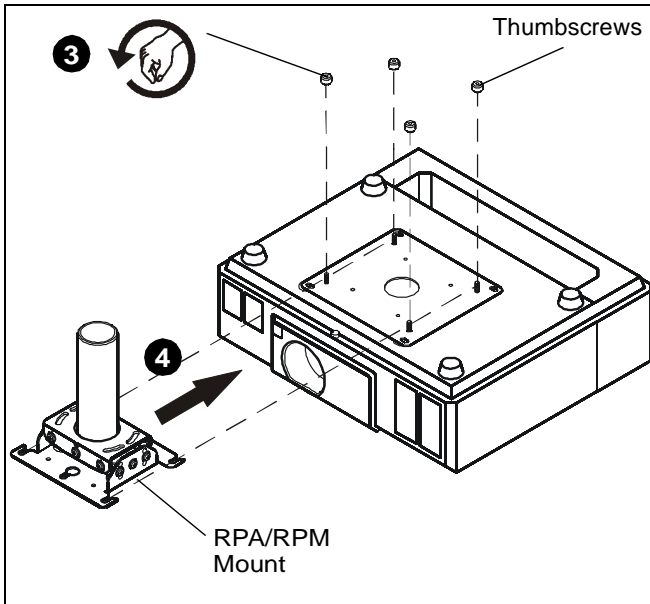

Figure 1
3. Loosen and remove the thumbscrews securing the projector to the RPA/RPM mount. (See Figure 1)